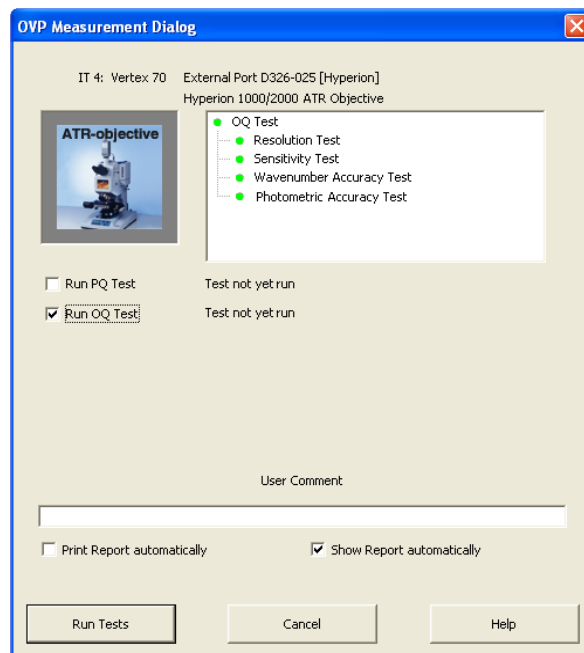

Figure 65: Starting the OQ Test
- As a result, the *OVP Measurement Dialog* opens. See figure 65.